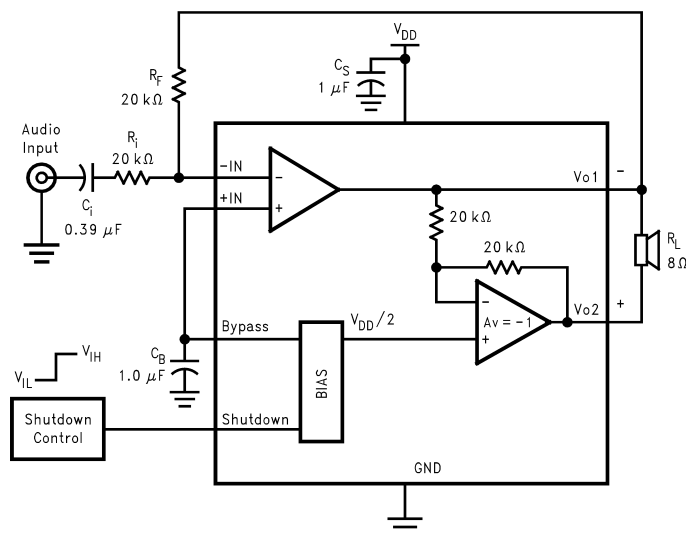

Figure 1. Typical Audio Amplifier Application Circuit
- (1) All voltages are measured with respect to the ground pin, unless otherwise specified.
- (2) *Absolute Maximum Ratings* indicate limits beyond which damage to the device may occur. *Operating Ratings* indicate conditions for which the device is functional, but do not guarantee specific performance limits. *Electrical Characteristics* state DC and AC electrical specifications under particular test conditions which guarantee specific performance limits. This assumes that the device is within the Operating Ratings. Specifications are not guaranteed for parameters where no limit is given, however, the typical value is a good indication of device performance.
- (3) For micro SMD only, shutdown current is measured in a Normal Room Environment. Exposure to direct sunlight will increase I_{SD} by a maximum of $2\mu A$.
- (4) Typicals are measured at $25^\circ C$ and represent the parametric normal.
- (5) Limits are guaranteed to National's AOQL (Average Outgoing Quality Level).
- (6) PSRR is a function of system gain. Specifications apply to the circuit in Figure 1 where $A_V = 2$. Higher system gains will reduce PSRR value by the amount of gain increase. A system gain of 10 represents a gain increase of 14dB. PSRR will be reduced by 14dB and applies to all operating voltages.